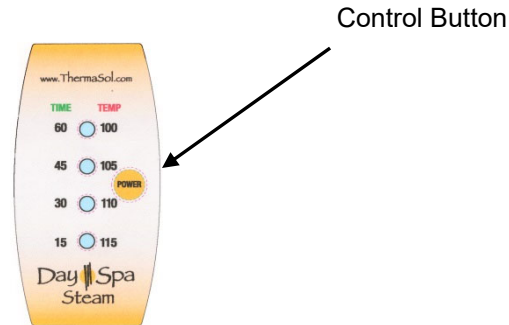

Figure 7
- 1. Starting Your Steam Bath.** Press the “Control Button” momentarily to activate your steam bath session. Your control will come from the factor with a default setting of 60 minutes at 100°F (to change these settings move to steps 2 and 3) once the button is pressed you will see a green LED appear indicating the time to be set, four seconds will pass and a red LED will appear indicating the temperature to be set. **(Figure 7)**